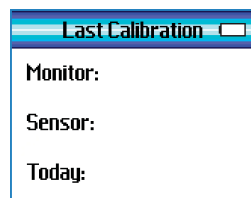

Figure 4: Calibration and Date Screen
- ⇒ If the sensor is defective or not attached to the basic unit, the start-up sequence will be stopped – screens in Figures 4 and 5 will not be displayed
- ⇒ If the calibration is more than 2 years old for the sensor, or 4 years old for the basic unit the calibration screen (Figure 4) will have a red background and one of the buttons needs to be depressed to continue.